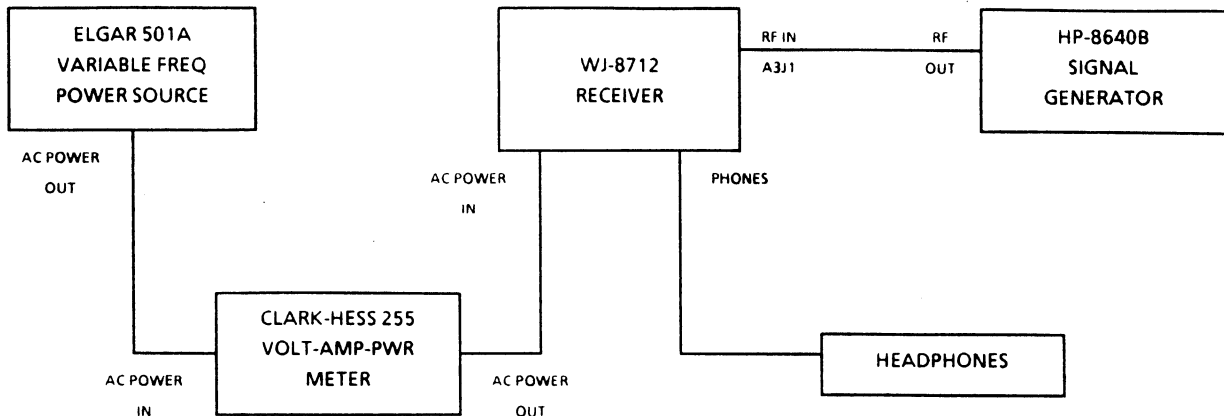

Figure 7-1. Power Consumption Performance Test Equipment Connection
1. Connect the WJ-8712 Receiver and test equipment as illustrated in **Figure 7-1**.